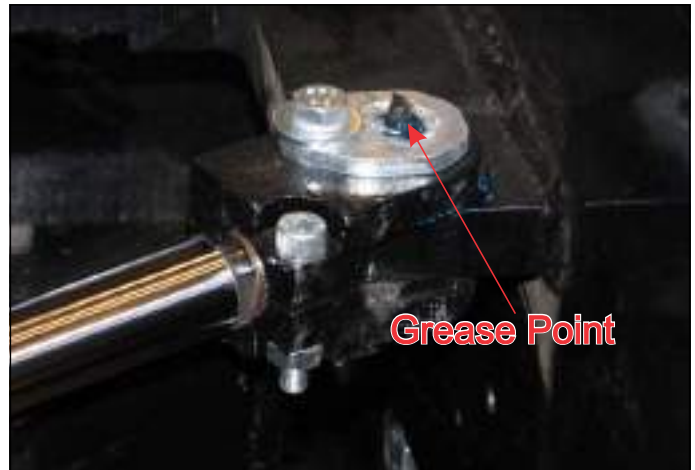

Figure 6-4: Pivot Pin Clevis Lubricating
4. Grease the pivot cylinder clevis until fresh grease is squeezed from the clevis. Wipe off excess grease. **See Figure 6-4.**